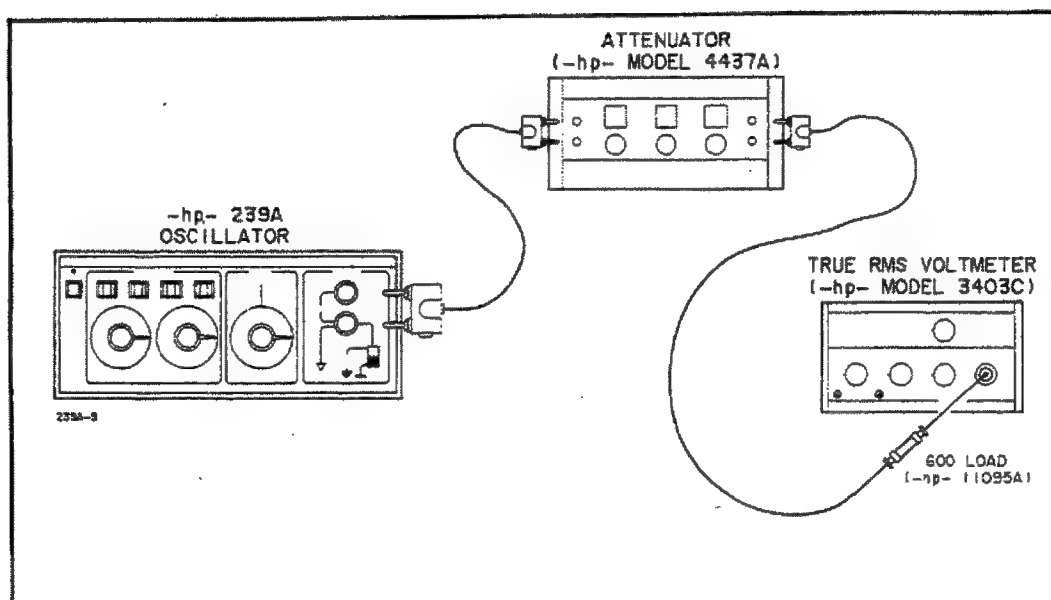

Figure 4-1. Attenuator Accuracy Test.
- b. Connect the equipment as shown in Figure 4-1.
- c. Connect the equipment as shown in Figure 4-1.